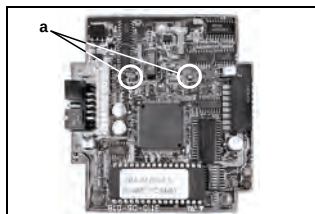

Figure 3-7 Sensor Cover Screw Removal
10. Remove the Sensor Cover by removing the two retaining screws shown in Figure 3-7 a.